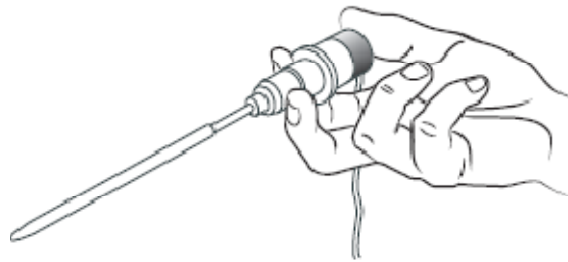

Figure 5.2
9. To remove the probe cover, hold the probe as you would a syringe, and press the ejection button at the top of the probe (see **Figure 5.2**). Discard the used probe cover according to health care facility protocol.